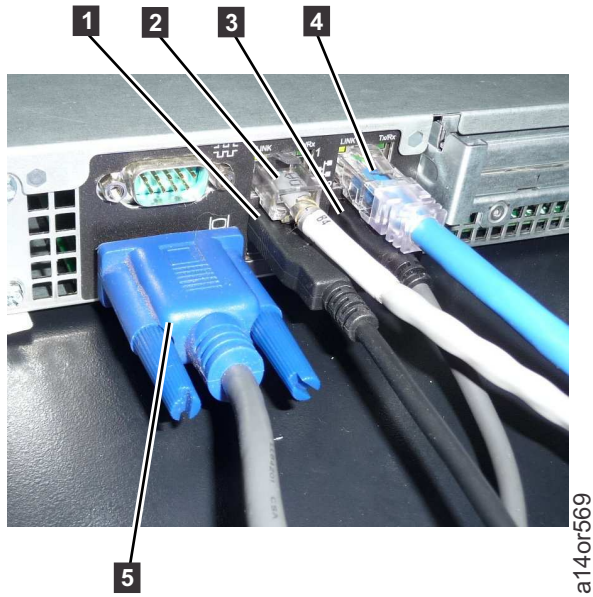

Figure 19. Cables plugged into the TSSC server, FC 2724
- For TSSC FC 2724, refer to Figure 19 on page 23.